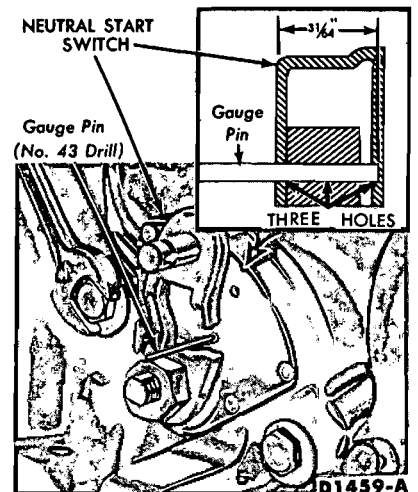

FIG. 22—Neutral Start Switch—Mustang-Cougar
1. With the manual lever properly adjusted, loosen the two switch attaching bolts (Fig. 22).
2. With the transmission manual lever in neutral, rotate the switch and insert the gauge pin (No. 43 drill shank end) into the gauge pin holes of the switch. The gauge pin has to be inserted to a full 31/64 inch into the three holes of the switch (Fig. 22).
2. Apply penetrating oil to the downshift lever shaft and nut. Remove the transmission downshift outer lever retaining nut and lever (Fig. 22).
6. With the transmission manual lever in neutral, rotate the switch and install gauge pin (No. 43 drill) into the gauge pin hole (Fig. 22).